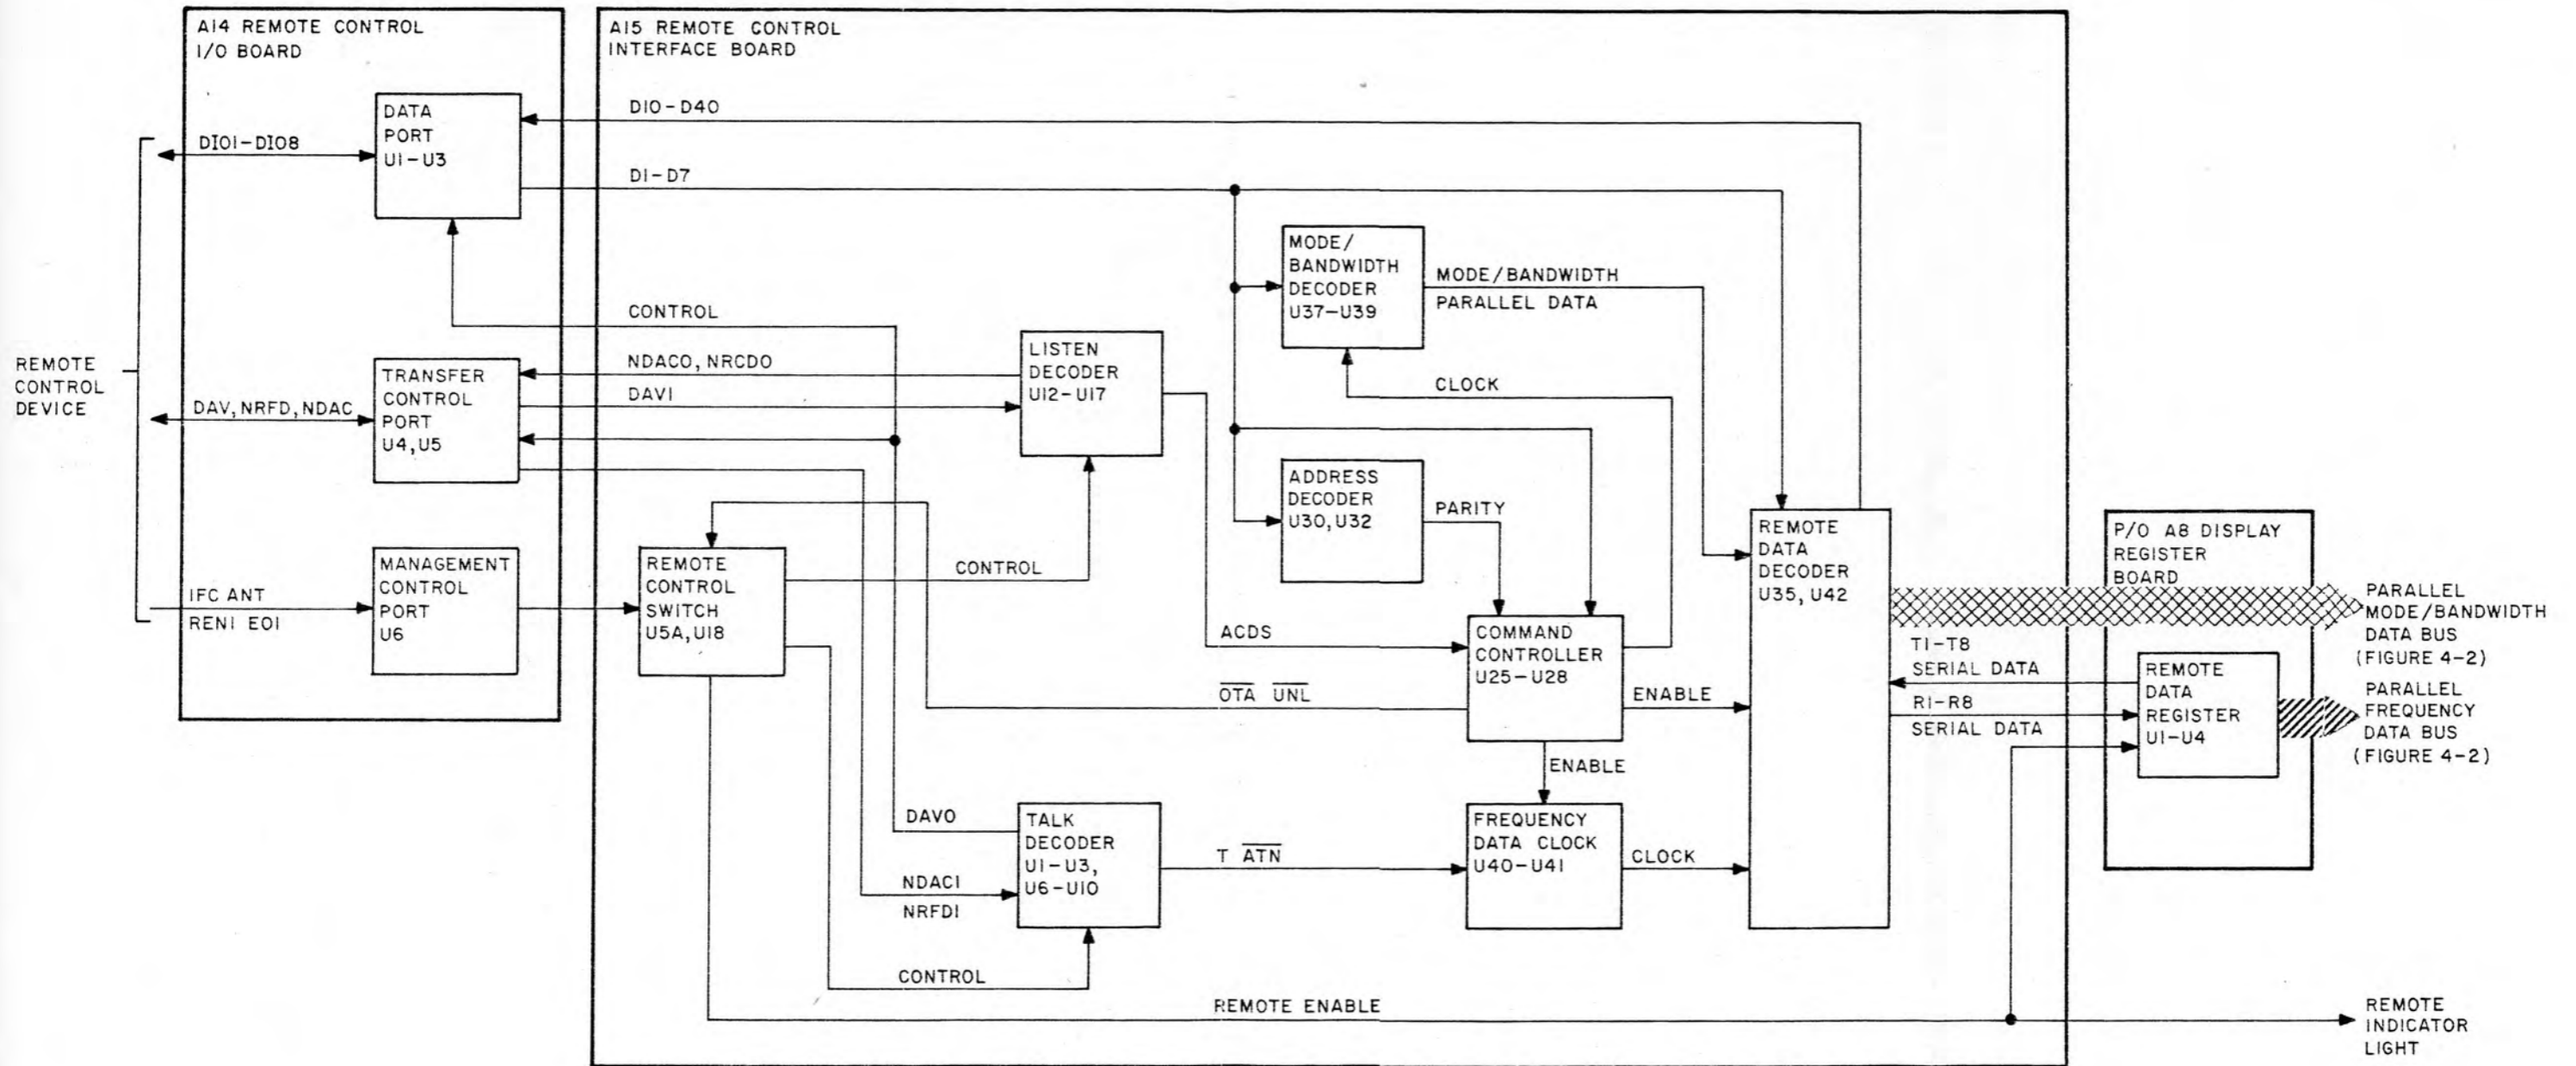

Figure 4-3. Remote Control Interface Assembly Functional Block Diagram
(2) Remote Control Interface Assembly. The remote control interface assembly (figure 4-3) conforms to IEEE Standard 488-1978. It is composed of A14 remote control I/O board, A15 remote control interface board, and P/O A8 display register board.